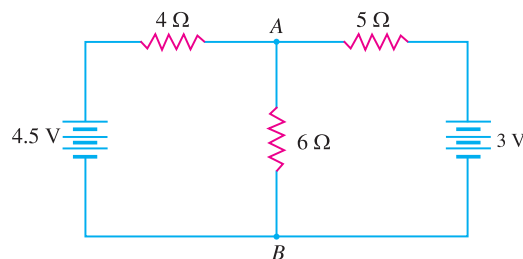

Fig. 1.50
- Using Norton's Theorem, find the current in branch AB containing $6\ \Omega$ resistor of the network shown in Fig. 1.50. **[0.466 A]**